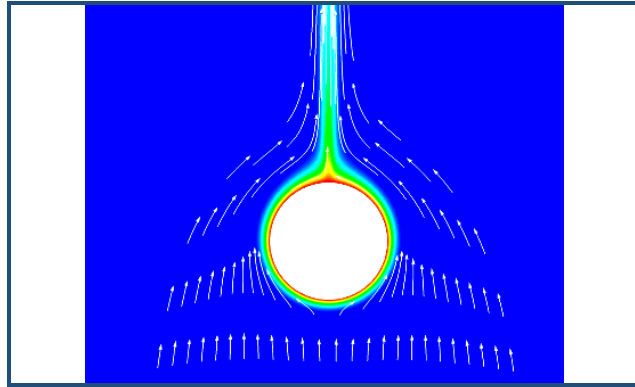

Figure 9.1: Temperature contour and velocity vectors from a rod
5. Analyze the results using the Ansys CFD post to get the contour as shown in Figure 9.1.